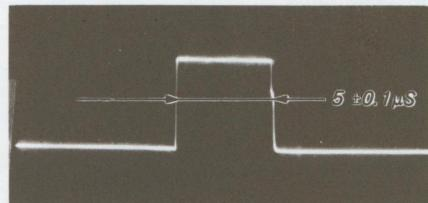

Fig. 5-125.
- (1) Make the BVM-1201 receive the crosshatch signal.
- (2) Connect the oscilloscope to TP5 on the DA board. Adjust RV26 on the DA board so that the H. SYNC pulse width becomes $5 \pm 0.1 \mu\text{s}$. (See Fig. 5-125.)